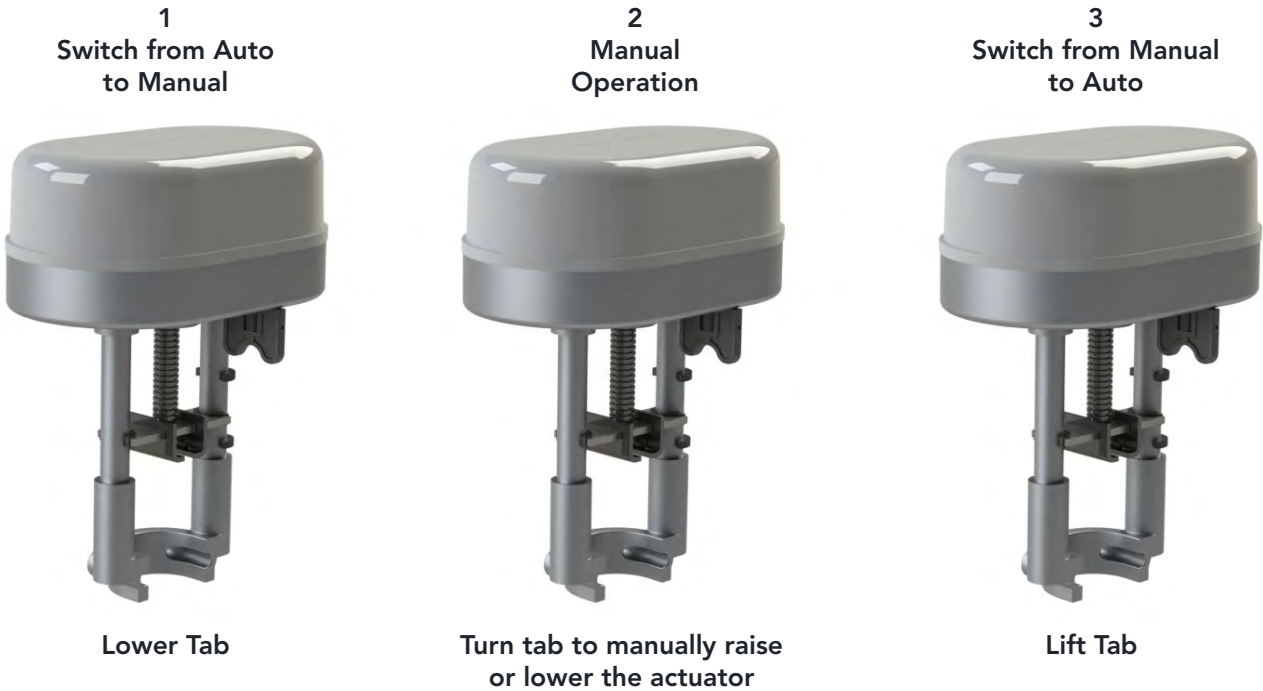

FIGURE 7
- 2 Before mounting the Actuator to the DTV valve, manually lower the Actuator as shown in Figure 7.